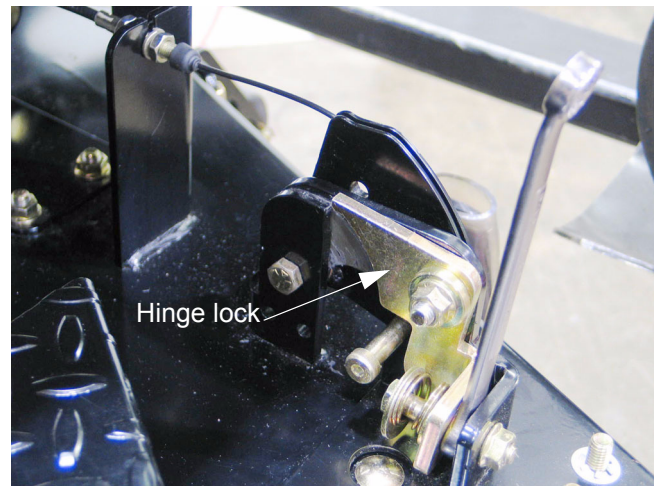

Figure 8.4
- 8.4. Block all four hinge locks into the unlatched position using extra wrenches. See Figure 8.4.